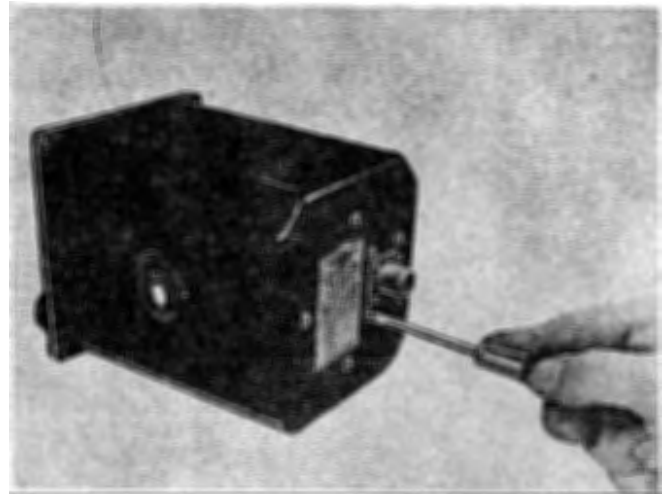
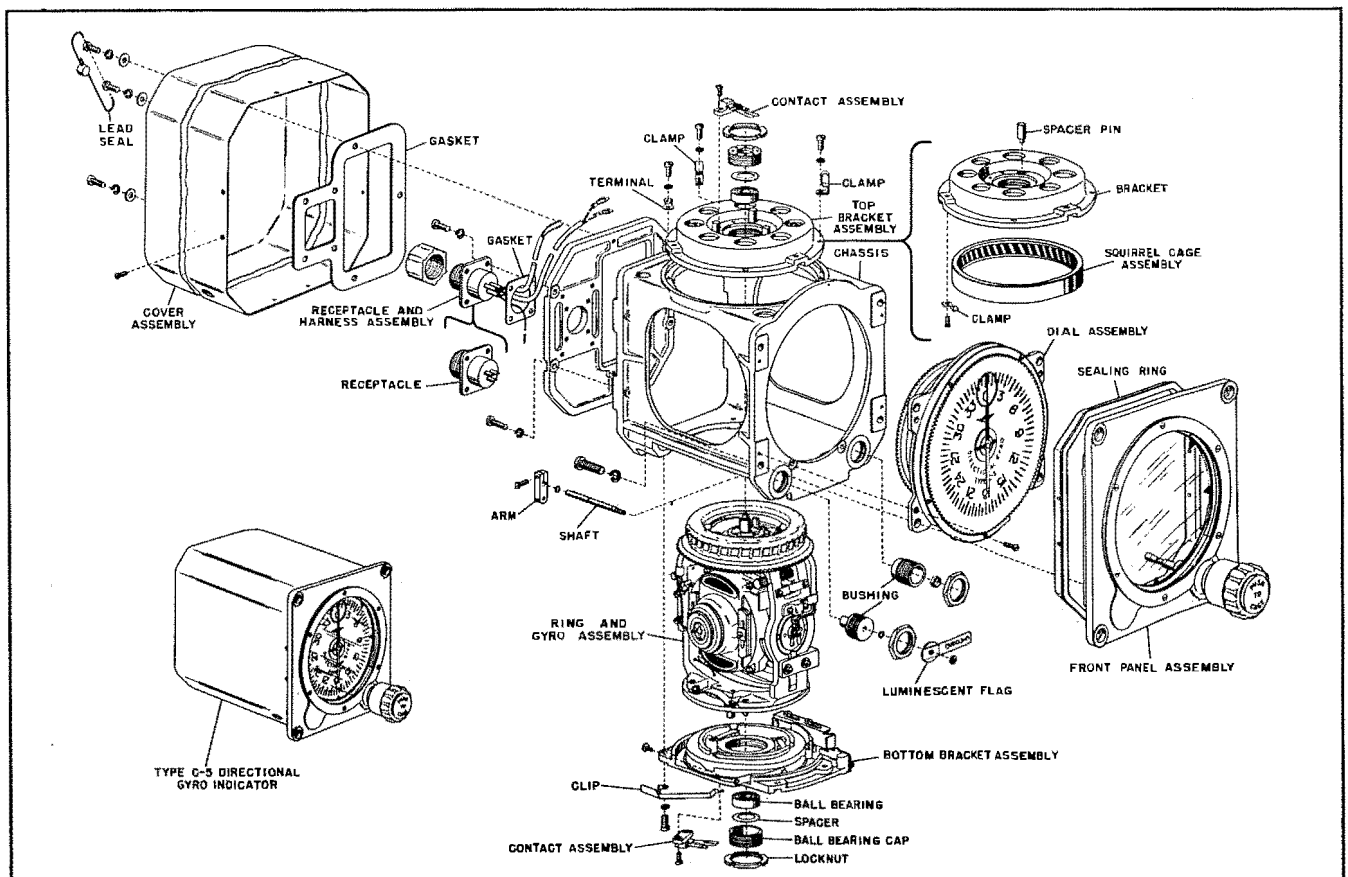

Figure 11
Figure 16A
(1) Remove the lead seal and wire, and take out the two special fillister-head screws, lock washers, and flat washers. (See figure 11.)
(2) Take out the five remaining fillister-head machine screws, lock washers, and flat washers, and withdraw the cover assembly.
(3) Uncage the instrument by pulling out the caging knob, marked "LOCK AND SET CARD".
(3) Uncage the instrument by pulling out the "PUSH TO CAGE" knob.
(4) Remove the fillister-head screw from each of the bixel glass heater connections. (See figure 16A.) Remove the paper insulating strips and fiber washers from the terminals, and disconnect the wires.